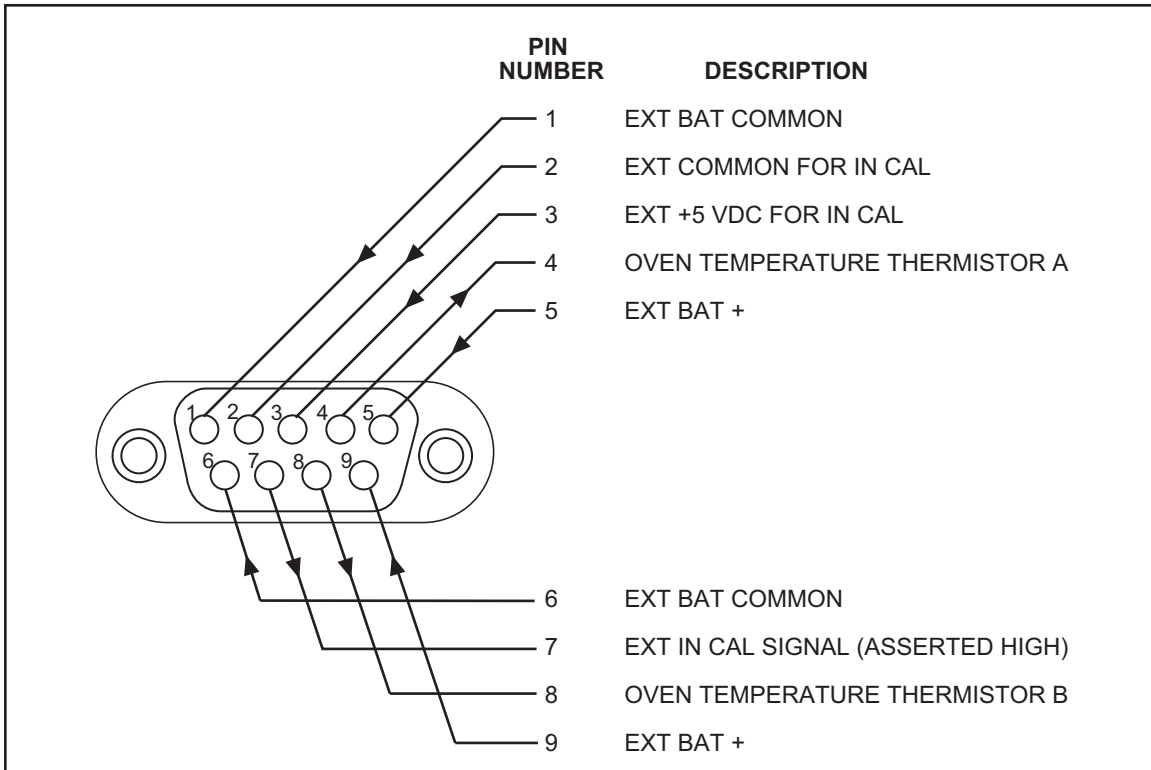
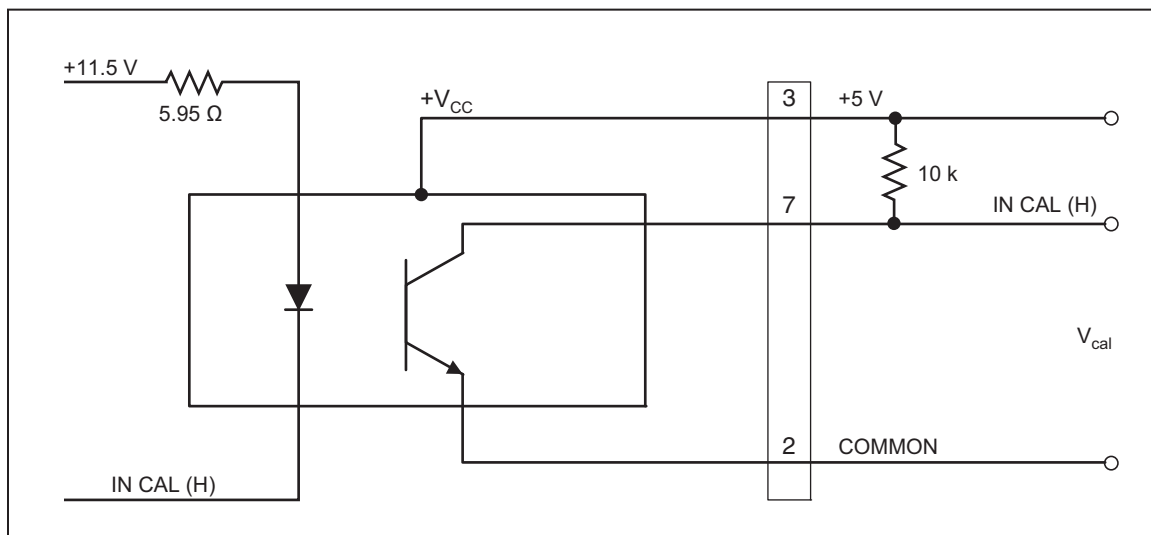

Figure 10. 732C MONITOR/EXT BAT IN Connector Pinout
Figure 13. IN CAL Status Output Circuit
You can power the standard using an external battery such as the 732C-7001 External Battery/Charger, or other 12 to 15V dc source that can supply at least 300 mA. You connect the external dc source through the MONITOR/EXT BAT IN connector. Figure 10 shows a pinout diagram of the MONITOR/EXT BAT IN connector. Use this method if you need to operate the standard on battery power for a period longer than 72 hours. Or, if the preferred power source is 12 V dc to 15 V dc, you can use this method to power the standard permanently. Leave the 732C BAT the switch set to **A** to connect the internal and external batteries in parallel. Each battery is protected from high discharge into the other by current-limiting varistor. Set the 732C BAT switch to **B** to isolate the internal and external batteries. In this switch position, an external dc source connected to the MONITOR/EXT BAT IN input continues to power the 732C, but is isolated from the 732C's internal battery.
5. Fabricate and connect a cable with a 9-pin connector on each end so that the battery output from the 732C-7001 is connected to the external dc input of the 732C. See Figures 10 and 11 for the connector pinouts.
As shown in Figure 10, MONITOR/EXT BAT IN pins 4 and 8 connect to the two terminals of the oven temperature thermistor. To monitor the oven temperature, measure the resistance between these two pins. The nominal resistance at normal operating temperature is between 36.5 k $\Omega$  and 42.5 k $\Omega$ . The resistance should change with time by no more than 900 $\Omega$  per year. The TC (temperature coefficient) of the thermistor is approximately 2 k $\Omega$  per  $^{\circ}\text{C}$ .
As shown in Figure 10, three of the MONITOR/EXT BAT IN pins are connection points for monitoring the state of the IN CAL indicator. Figure 13 illustrates the IN CAL status output circuit inside the 732C. Proceed as follows to use this connector to remotely monitor the IN CAL indicator: